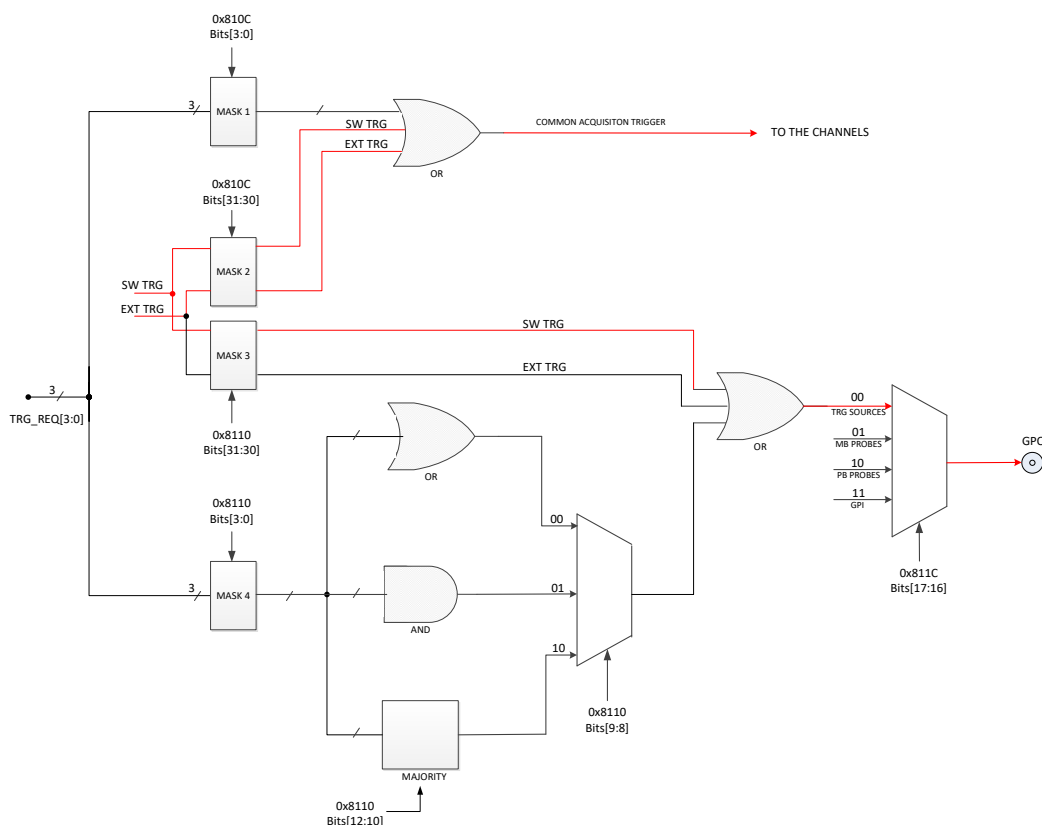

Fig. 9.19: Trigger configuration on GPO front panel output connector
As described in Sec. **Waveform Recording** Trigger Management, the OR of all the enabled trigger sources, synchronized with the internal clock, becomes the common trigger of the board that is fed in parallel to all channels, consequently provoking the capture of an event. By default, only the Software Trigger and the External Trigger participate in the common acquisition trigger (refer to the red path on top of Fig. 9.19).
Thanks to its configurability (see Fig. 9.19), GPO can propagate:
- the OR of all the enabled trigger sources (only the Software Trigger is provided by default, as in the red path of Fig. 9.19);